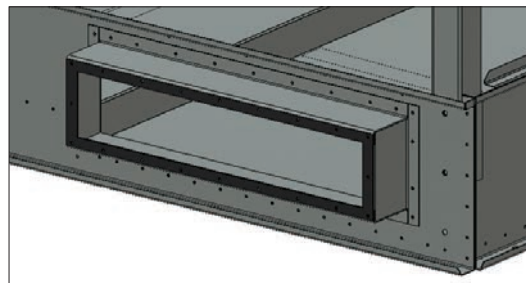

Figure 10. Flume Box Butyl Sealer Tape Application
2. Wipe down the mating surface on the outer, protruding end of the flume box and apply a layer of flat butyl sealer tape (BAC Part #554000) around the face of the flange over the centerline of the holes. Do not overlap or stretch too thinly at the corners. When it is necessary to splice the butyl sealer tape, be sure to press the two ends together to form a smooth, continuous strip. See **Figure 10**.